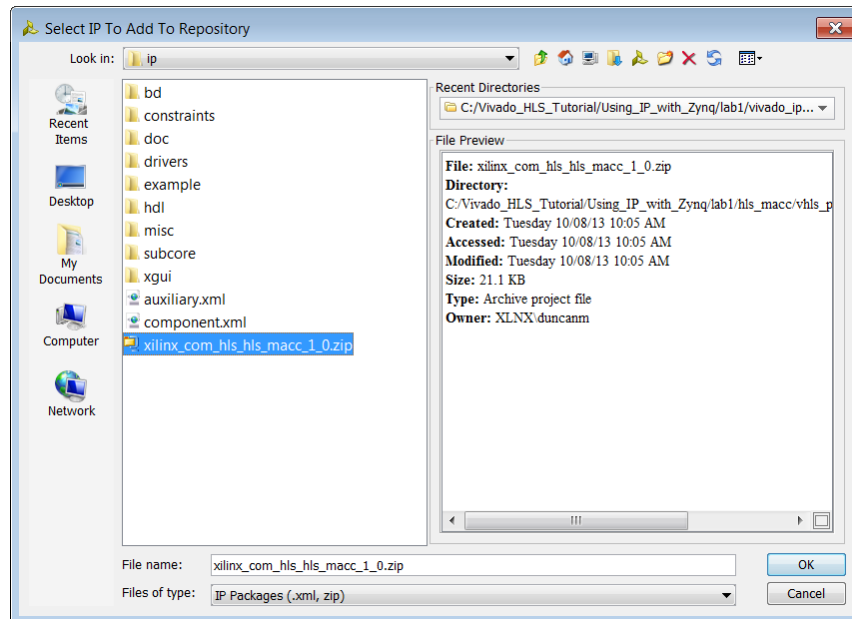

Figure 224: Add IP to the Repository
- c. Select the IP Catalog package `xilinx_com_hls_hls_macc_1_00`a.zip file (**Figure 224**).